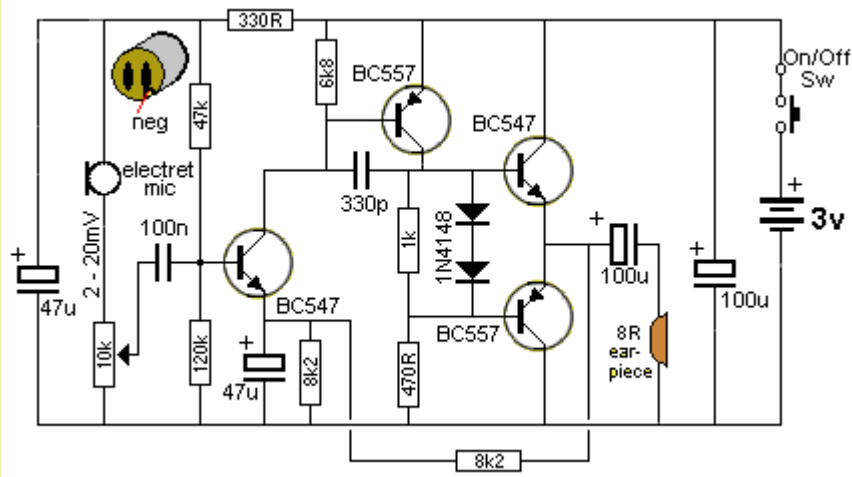
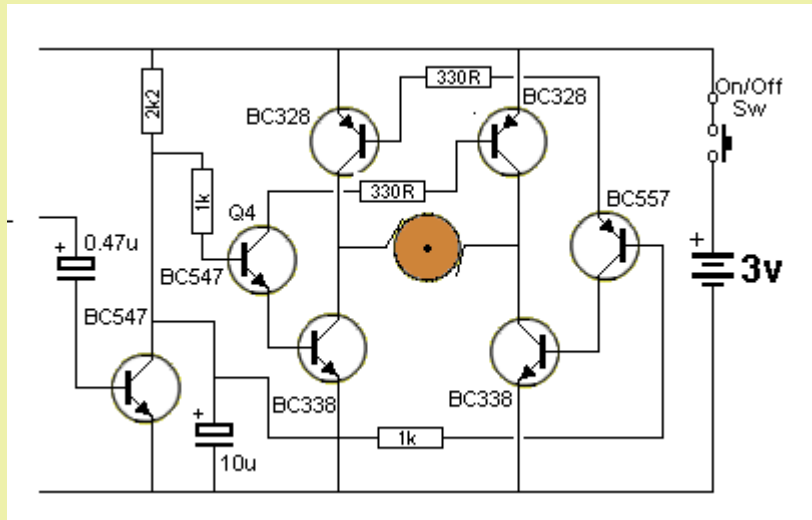

Fig 53 PUSH-PULL to charge/discharge the 100u electrolytic
Fig 54 PUSH-PULL driving the motor forward/reverse
0.6v drop between base and emitter, it is generally used in a PUSH-PULL arrangement as we will see in Fig 53, to charge and discharge the electrolytic or in an H-Bridge to drive a motor forward and reverse as shown in Fig 54. But when a common-emitter stage is used, the output voltage increases 0.6v.
This feature is also called **IMPEDANCE MATCHING**. The circuit is also called a **PUSH PULL OUTPUT** as one transistor "pushes energy" into a device (connected to the output) during one half of a cycle while the other transistor will "pull energy" out of a device. This is one of the ways to charge and discharge a capacitor on the output and any device connected to the other side of the capacitor will see the AC waveform and become active. This is shown in **Fig 53**: